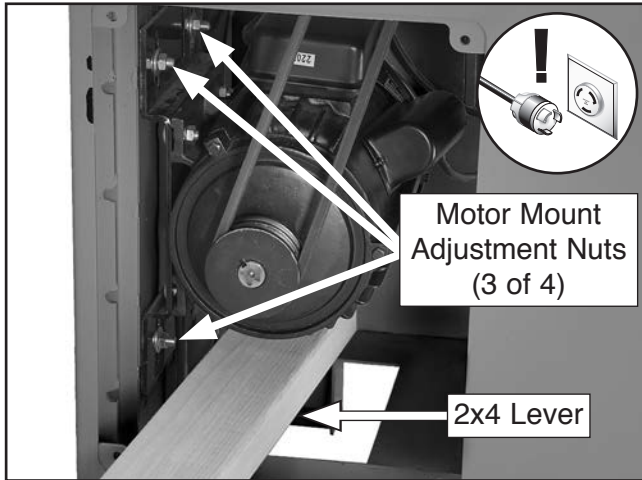

Figure 52. Removing V-belt tension for belt removal/replacement.
4. Loosen (4) motor mount adjustment nuts and raise motor (see **Figure 52**) to completely remove V-belt tension. It may help to use a 2x4 as lever to lift motor.